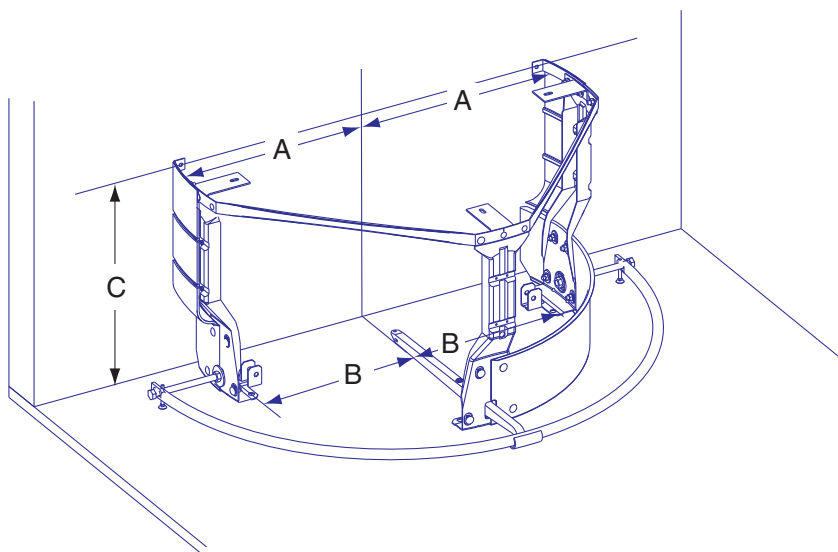

Figure 3
4. Anchor the pedestal to the floor with suitable fasteners (supplied by installer). See Figure 3 and Table 2.